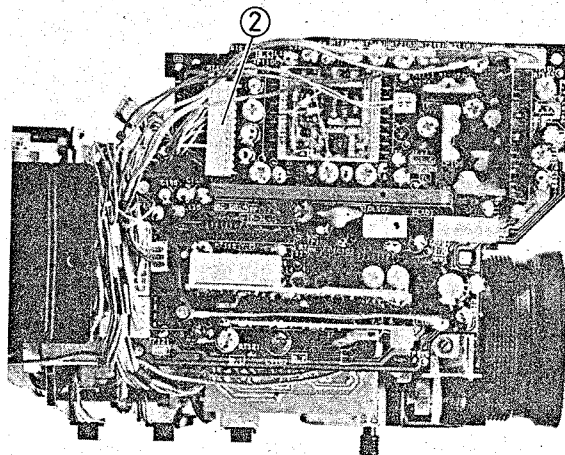

Fig. 2-23 Deflection Circuit Board Removal
2. Disconnect connector CN1509. (See Fig. 2-23)